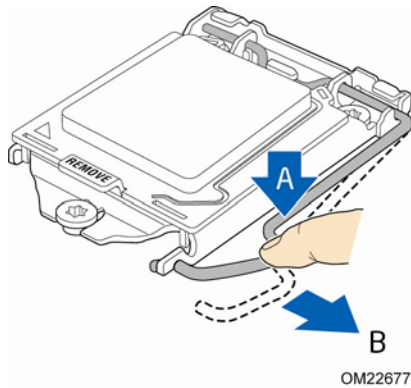

Figure 7. Unlatch the Socket Lever
2. Unlatch the processor socket lever by pushing it down and away from the socket (Figure 7, A, B).